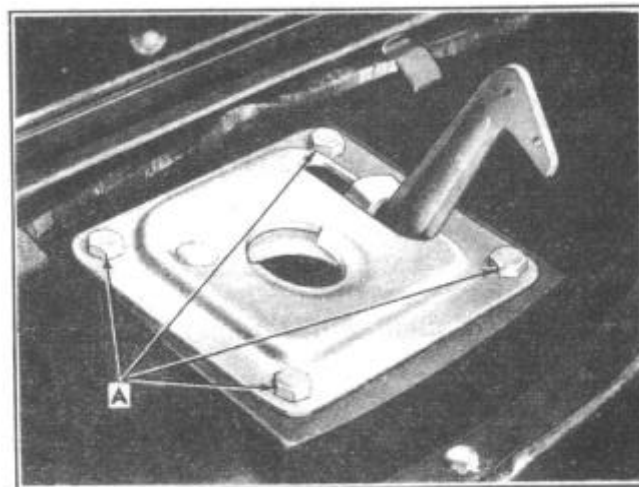

FIGURE 104
1. Remove the four bolts (A), Figure 104, attaching lower hood lock to lower hood lock support and remove the lock.